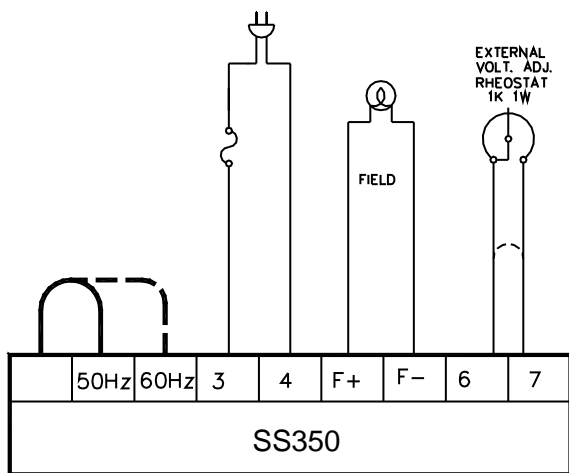

Figure 4 Test Diagram
1. Connect the Analog Voltage Controller as shown in the operational test diagram of Figure 8. Do not apply power. Ensure that the light bulbs are rated for 120 volts and less than 100 watts. Figure 4. Operational Test Diagram.